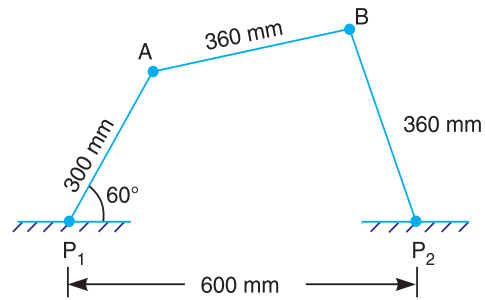

Fig. 8.10
**Example 8.5.** The dimensions and configuration of the four bar mechanism, shown in Fig. 8.10, are as follows :